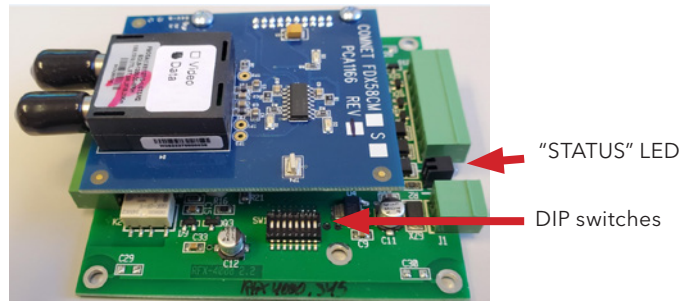

Figure 1 - FDW1000
- locate the STATUS indicator LED (between the 2-pin power connector and the 8-pin terminal strip - see Figures 1 and 2 below)
- with the cover removed, locate the eight DIP switches (OFF is toward the edge of the circuit board and Switch 8 is closest to the power connector - see Figures 1, 2, and 3 below).